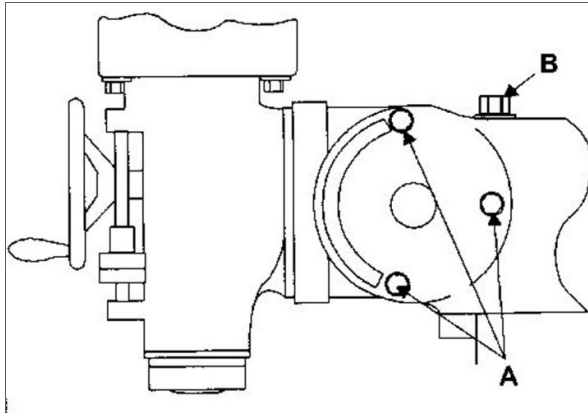

Figure 10: Head movement
- a. Loosen the three ram adapter locking bolts (A, Figure 10). It is unnecessary to loosen the bolts more than one-half (1/2) turn to allow tilting.
- c. Turn ram adapter worm nut (B, Figure 10) to tilt head forward and backward. Use scale on ram adapter to establish desired angle.
- i. When indicator reads zero, tighten ram adapter locking bolts (A, Figure 10).